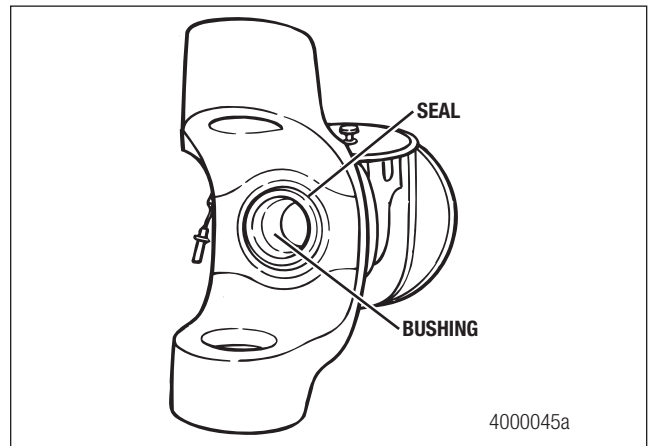

Figure 11.7
6. Apply a liberal amount of oil or grease to the shaft bushing. Figure 11.7.